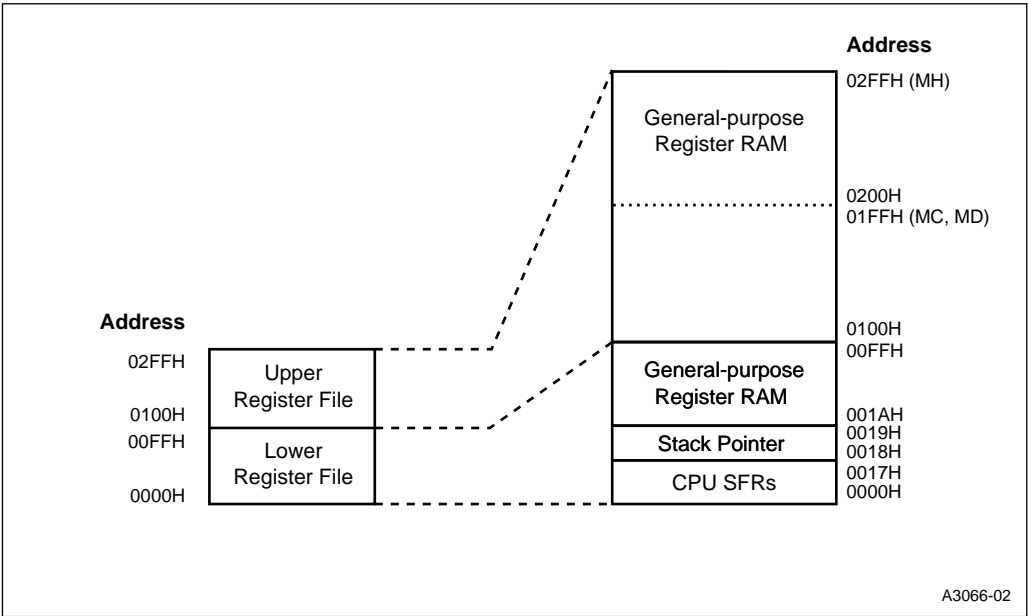

Figure 4-1. Register File Memory Map
The register file (Figure 4-1) is divided into an upper register file and a lower register file. The upper register file consists of general-purpose register RAM. The lower register file contains general-purpose register RAM along with the stack pointer (SP) and the CPU special-function registers (SFRs).